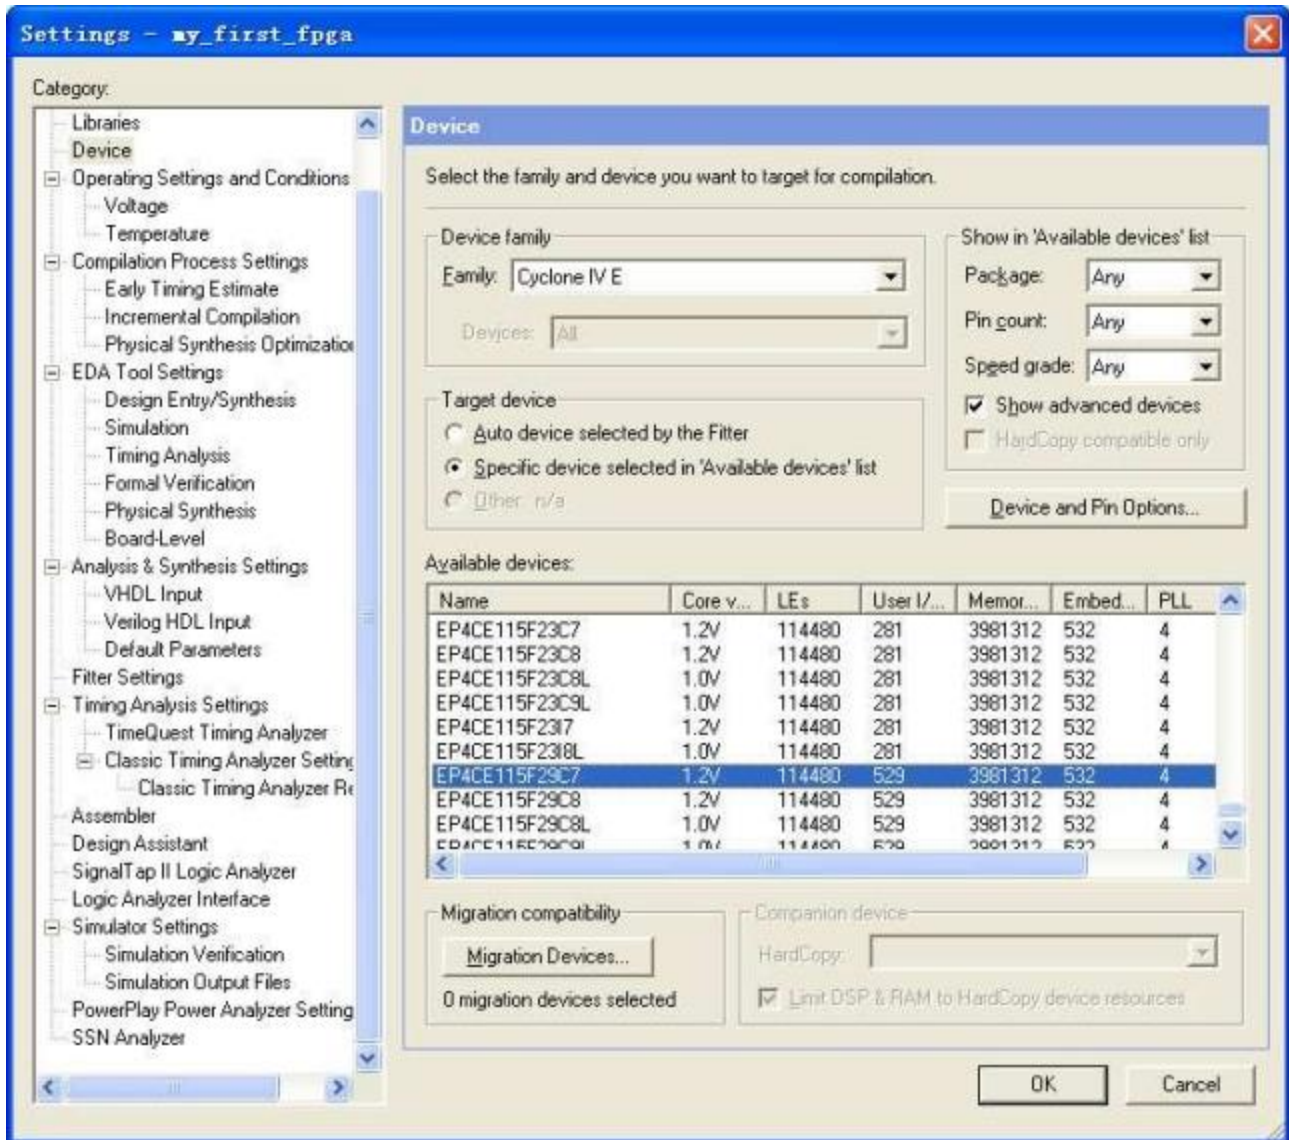

Figure 4-6 Device and Options
3. If other LEDs emit faintness light, Choose Assignments > Device. Click Device and Options. See Figure 4-6.